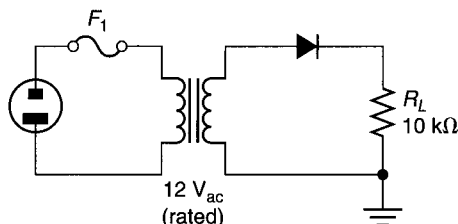

FIGURE 3.54
9. Determine the peak load voltage for the circuit shown in Figure 3.54.
10. Determine the peak load current for the circuit shown in Figure 3.54.
13. Determine the average (dc) load voltage for the circuit shown in Figure 3.54.
16. Assume that the diode in Figure 3.54 is reversed. Determine the new values of  $V_{L(pk)}$ ,  $V_{ave}$ , and  $I_{ave}$  for the circuit.